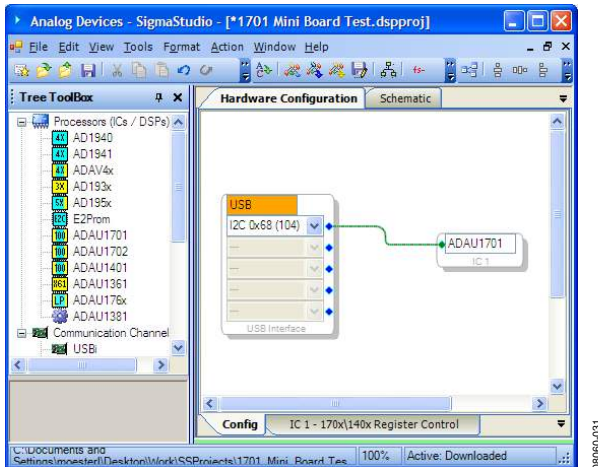

Figure 3. Hardware Configuration Tab
To create a new SigmaStudio project, follow the steps outlined below. To complete the steps, you will be working with the **Hardware Configuration** tab of the software shown in Figure 3.
2. Connect the USBi cell to the ADAU1701 cell by clicking and dragging from the top blue output pin to the green input pin. Your screen should now appear as shown in Figure 3.